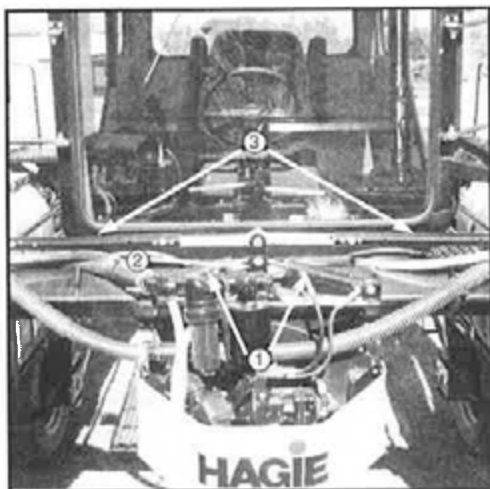

FIG 5.16
The full-time power steering system consists of a hydraulic steering motor (mounted on the end of the steering shaft) which is connected to a pair of double-action steering cylinders (fig. 5.16, item 1) mounted on a steering pivot (fig. 5.16, item 2) which oscillates a pair of tie rods (fig. 5.16, item 3) going to each steering leg. This system is powered by one of the hydraulic dual gear pumps driven by the sprayer's engine. Since these gear pumps are sensitive to engine RPM (the higher the RPM the higher the oil flow), it is best to always operate the sprayer at full recommended RPM to ensure maximum steering responsiveness.